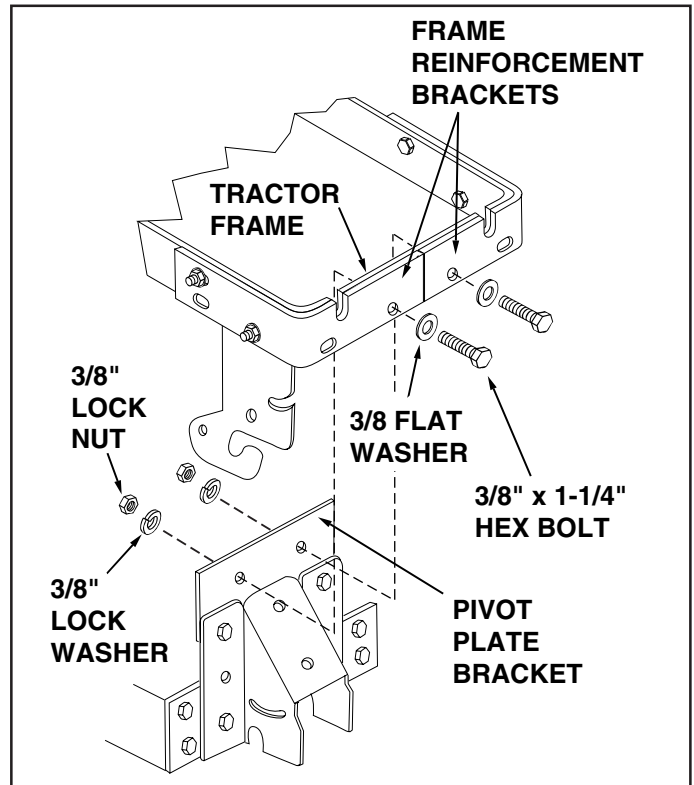

FIGURE 8
- Attach blade frame assembly to inside of tractor frame by aligning holes in pivot plate bracket with holes in front end of tractor frame and holes in frame reinforcement brackets. Secure using two 3/8" x 1-1/4" hex bolts, 3/8" flat washers, 3/8" lock washers and 3/8" lock nuts. **Tighten these two bolts at this time.** See figure 8.